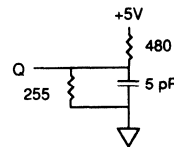

Fig. 2 OUTPUT LOAD EQUIVALENT
- t_{HZCE}, t_{HZWE} and t_{HZOE} are specified with CL = 5pF as in Fig. 2. Transition is measured ± 500mV from steady state voltage.